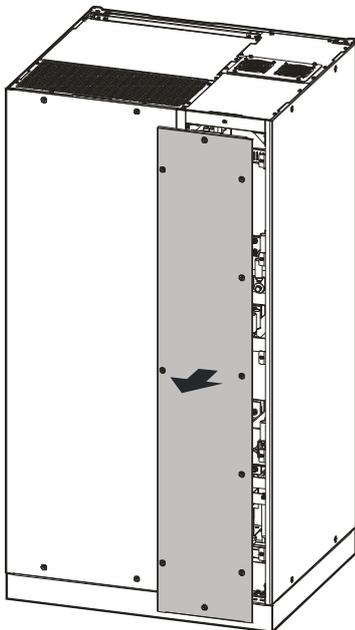

Figure3-17 Dismantle wiring cover plates of BM33300、BM33400
Step 1 Use the cross screwdriver to remove the screws from the wiring block, and dismantle wiring cover plates, as shown in Figure3-17.